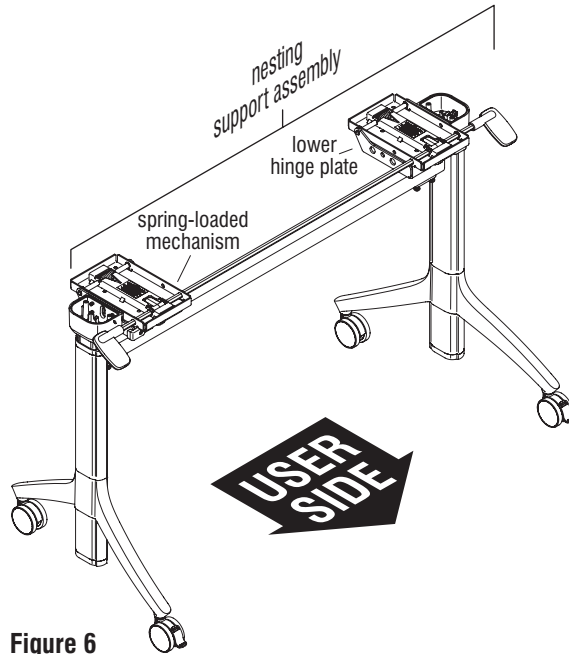

Figure 6
16. Carefully close and latch both spring-loaded mechanisms down onto the lower hinge plates (Figure 6 & Detail J).